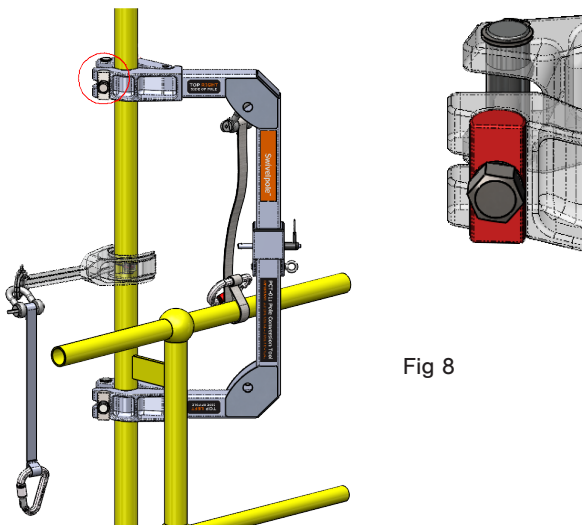

Fig 8
- ☐ Second person locks the clamp in place ensuring the half-moon locator is seated correctly into the PCT clamp. (Fig 8)